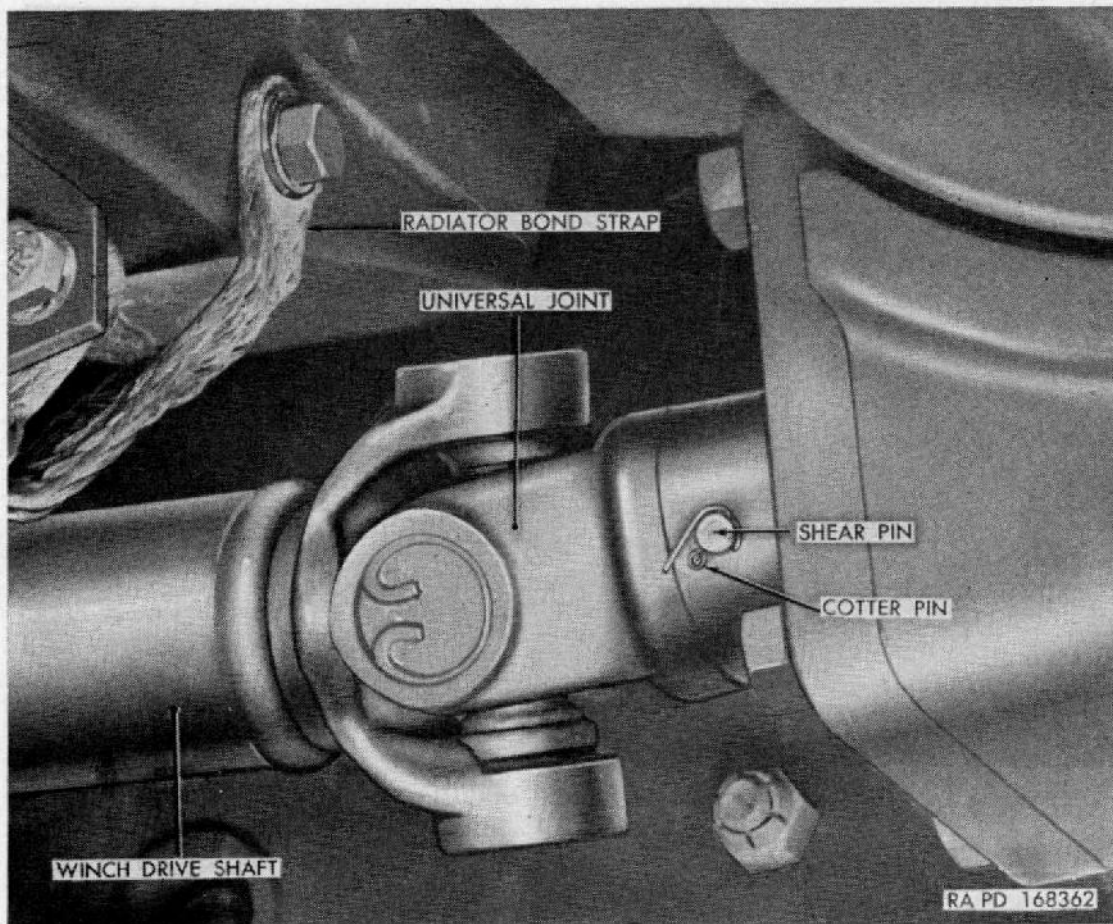

Figure 133. Winch drive shaft and shear pin.
to the winch-drive worm by a shear pin (fig. 133). This shear pin is installed to protect the chassis frame and wire rope.
a. DESCRIPTION. The winch is driven from power-take-off by a tubular-type drive shaft with two universal joint assemblies. The front universal joint is connected to winch-drive worm by a shear pin (fig. 133). The rear universal joint is attached to the power-take-off output shaft by a key and set screw. A slip joint is provided at the rear universal joint, with a stop collar positioned on drive shaft three-fourths inch ahead of rear universal joint.
b. SHEAR PIN REPLACEMENT. When shear pin fails, slide universal joint along the winch-drive worm to expose shear-pin hole. Remove broken parts of shear pin. Slide universal joint back into position and insert new pin. Install cotter pins in shear-pin ends (fig. 133).
b. Remove cotter pin from shear pin (fig. 133). Remove shear pin and loosen set screw in stop collar. Slide universal joint free of winch-drive worm.
b. Slide drive-shaft universal joint on which-drive worm, aline holes, and install shear pin. Install cotter pins in ends of hear pin (fig. 133). Position stop collar three-fourth inch ahead of rear universal joint and lock in place with set screw.